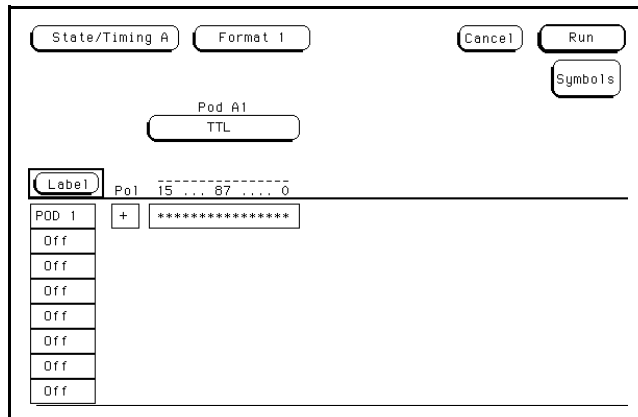

Figure 4-5. Pod Threshold Field
- d. Touch the pod A1 threshold field labeled **TTL**. See figure 4-5.